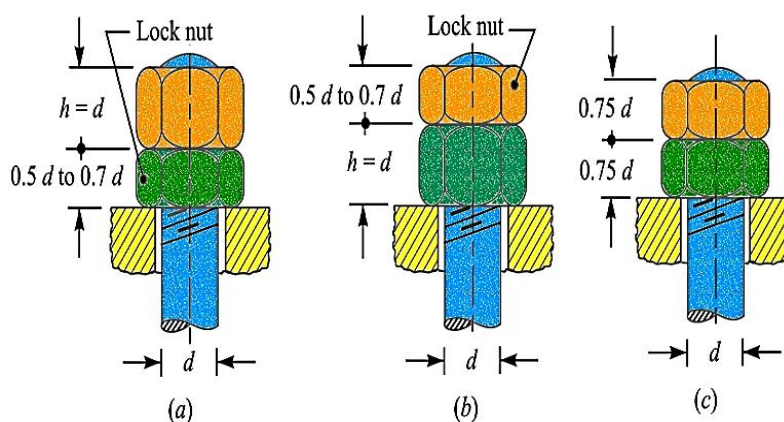

Fig. 3.1: Lock Nut or Jam Nut
- The most common locking device is a Jam lock or Check nut (Fig. 3.1).